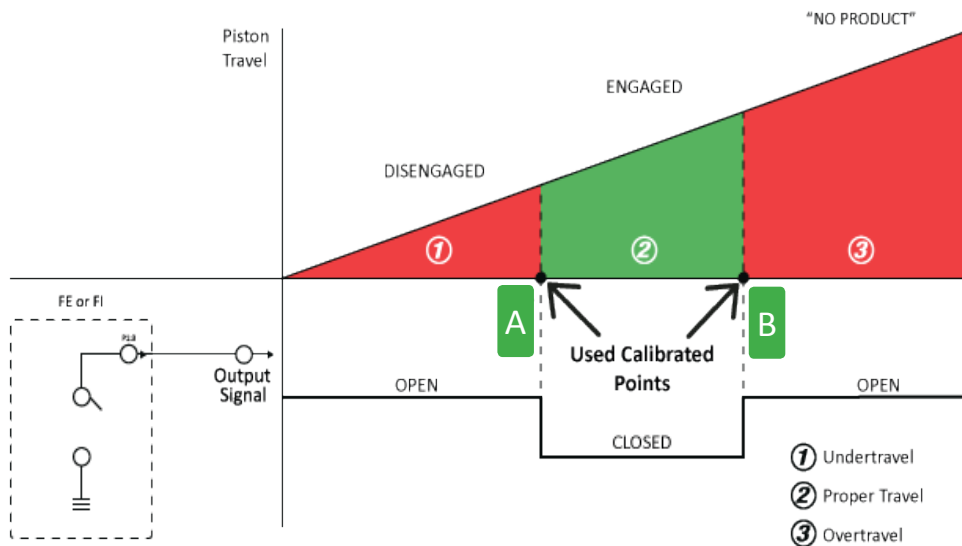

Figure 13. Dual Point Calibration Graph
3. Apply 8-24V to pin #2 for 2 seconds to define point A (Figure 13). After Pin #2 is re-opened (no voltage applied), a 30 second calibration timeout clock initiates. *The output signal begins “flashing” or alternating between open and closed states to signify the user has entered calibration mode.*